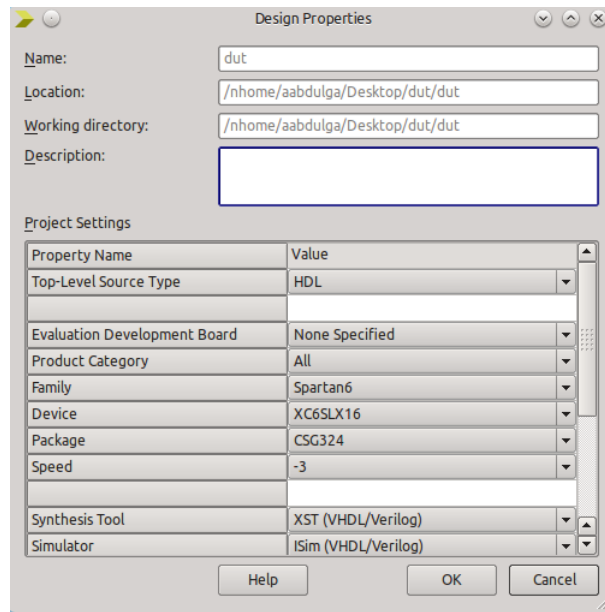

Figure 2.1: FOBOS Controller Design Properties
1. Create a new project using Xilinx ISE. In the New Project wizard set the Project Settings per the Control Board used. Make sure to select the values for Family, Device, Package and Speed (See Fig 2.1 for an example).